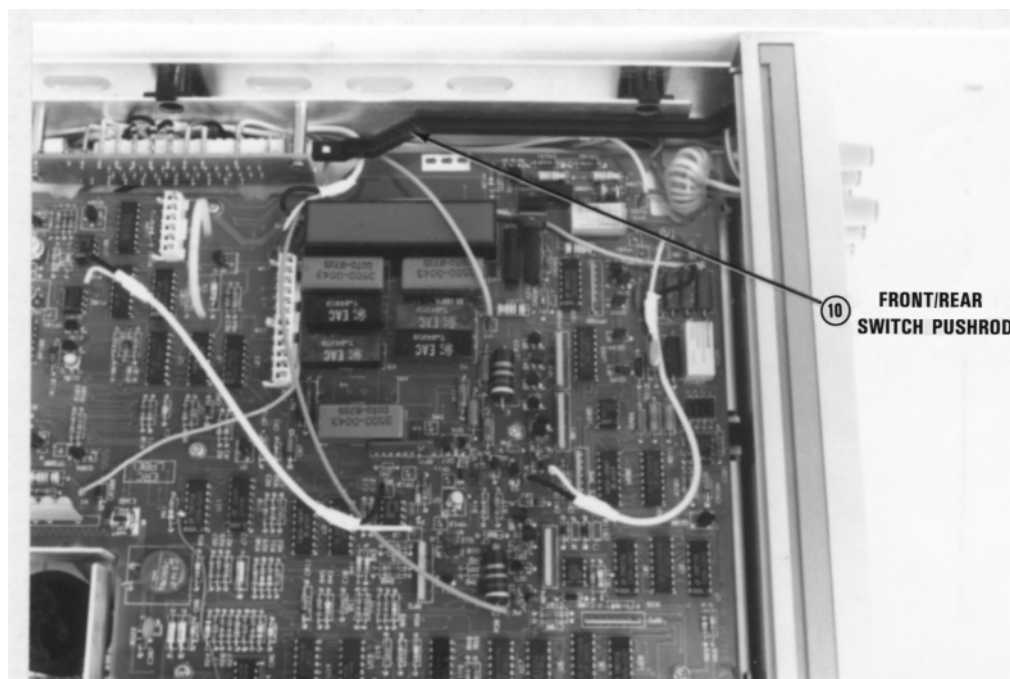

Figure 42. Front/rear terminal switch and pushrod location
3. Refer to Figure 42. Locate the pushrod for the Front/Rear Terminal switch. Pull the pushrod off. You may need to pry the pushrod loose with a small flat blade screwdriver, Set the switch in the position it is to be used.